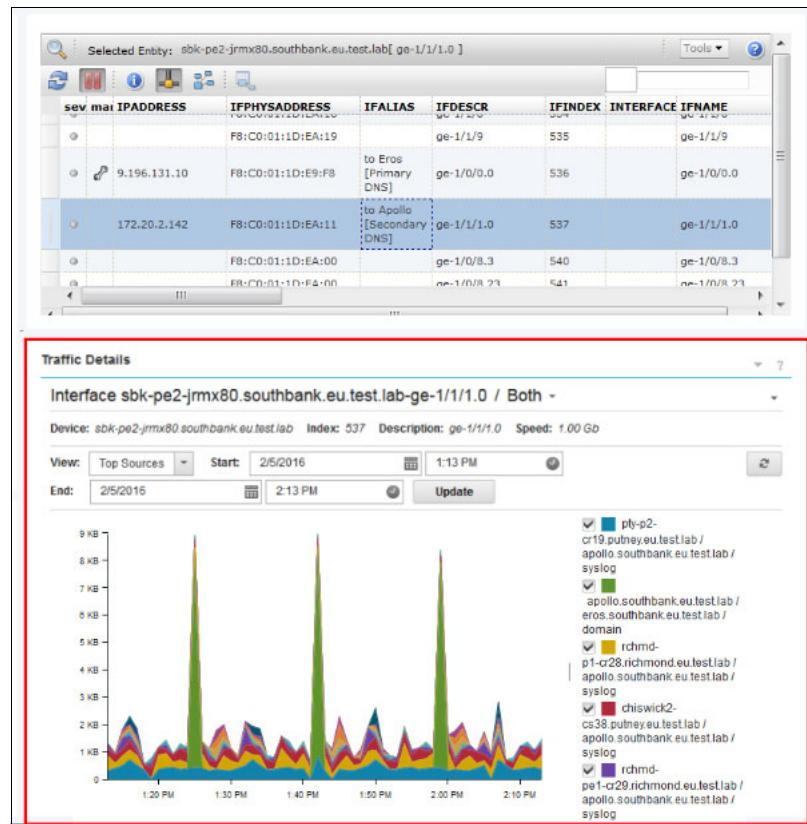

Figure 2-34 Port connecting the DNS server is identified by using the Structure Browser
- Brock identifies the specific switch port that the secondary DNS server is connected to and views the traffic for that port as provided from Netcool Performance Insight (NPI), as shown in Figure 2-34.